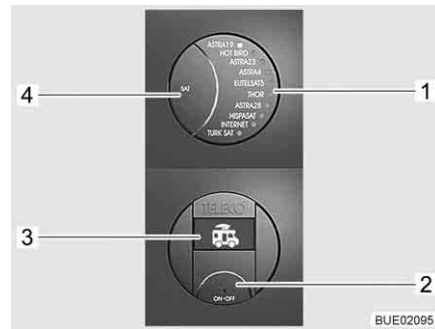

Fig. 36 Operating panel (TeleSat)
- Press the On/Off button (Fig. 36,2). The LED indicator of the selected satellite (Fig. 36,1) and the background lighting of the buttons are lit. The symbol of the vehicle with retracted antenna appears on the display (Fig. 36,3).
- Press the On/Off button (Fig. 36,2) again. The system has been switched on. If the antenna had been retracted, it will now extend to operating position. If the LED of the desired satellite (Fig. 36,1) is already flashing, wait a few seconds. The antenna automatically aligns with this satellite (the last satellite position is saved after switching off). When the unit has found the satellite, the LED (Fig. 36,1) is lit permanently and "SAT OK" is shown on the display (Fig. 36,3).
- Press the SAT button (Fig. 36,4) repeatedly until the LED (Fig. 36,1) indicates the desired satellite. The antenna automatically aligns with this satellite.
- When the unit has found the satellite, the LED (Fig. 36,1) is lit permanently and "SAT OK" is shown on the display (Fig. 36,3).
- Press the On/Off button (Fig. 36,2). The LED indicator of the selected satellite (Fig. 36,1) and the background lighting of the buttons are lit. The currently selected satellite is shown on the display (Fig. 36,3).
- Press the On/Off button (Fig. 36,2) again. The antenna retracts. When the antenna has been fully retracted, the symbol of the vehicle with retracted antenna is shown on the display. The system changes to the standby mode after a few seconds.